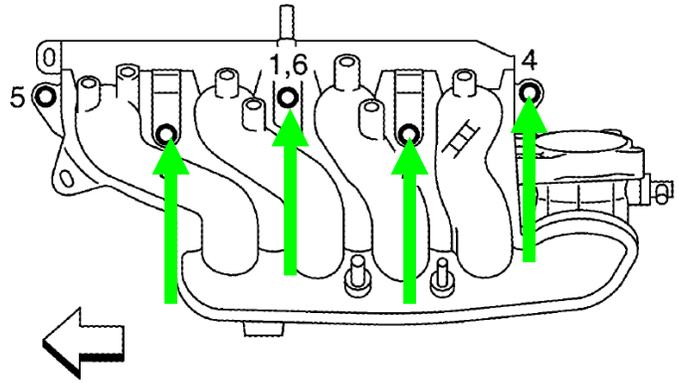

Figure 17
20. Using 10 mm socket, remove 5 intake manifold bolts on top of intake, shown by green arrows in Figure 17.